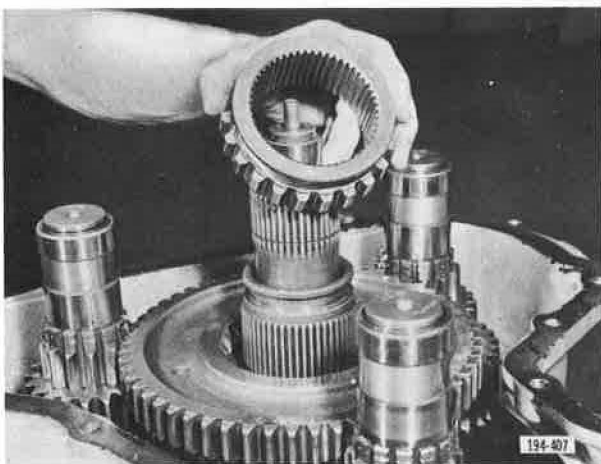

Figure 5-642. Installing First Speed Gear Sliding Clutch
15. Install first speed gear sliding clutch. See Figure 5-642.